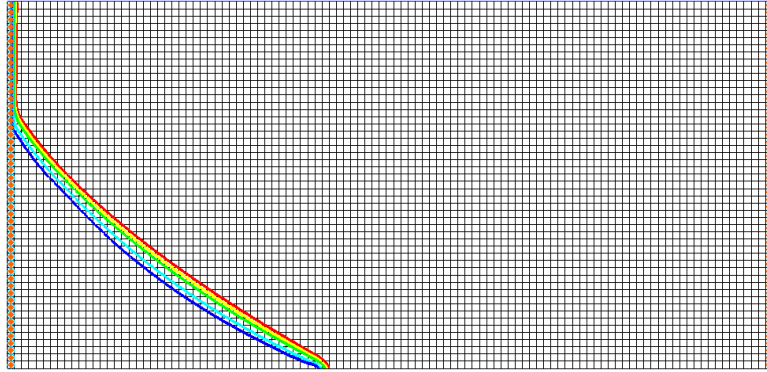

Figure 5 Time step 2 (after 5 minutes)
2. Select time step 2 (value of “5.0”) in the time step window (Figure 5).